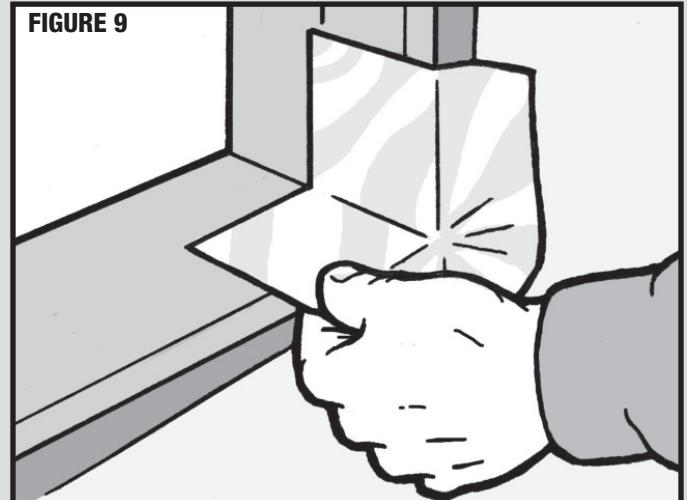

FIGURE 9
4.1. Fit the flashing corner guard tightly and squarely into the 90 degree joint and smooth out. (Figure 9)